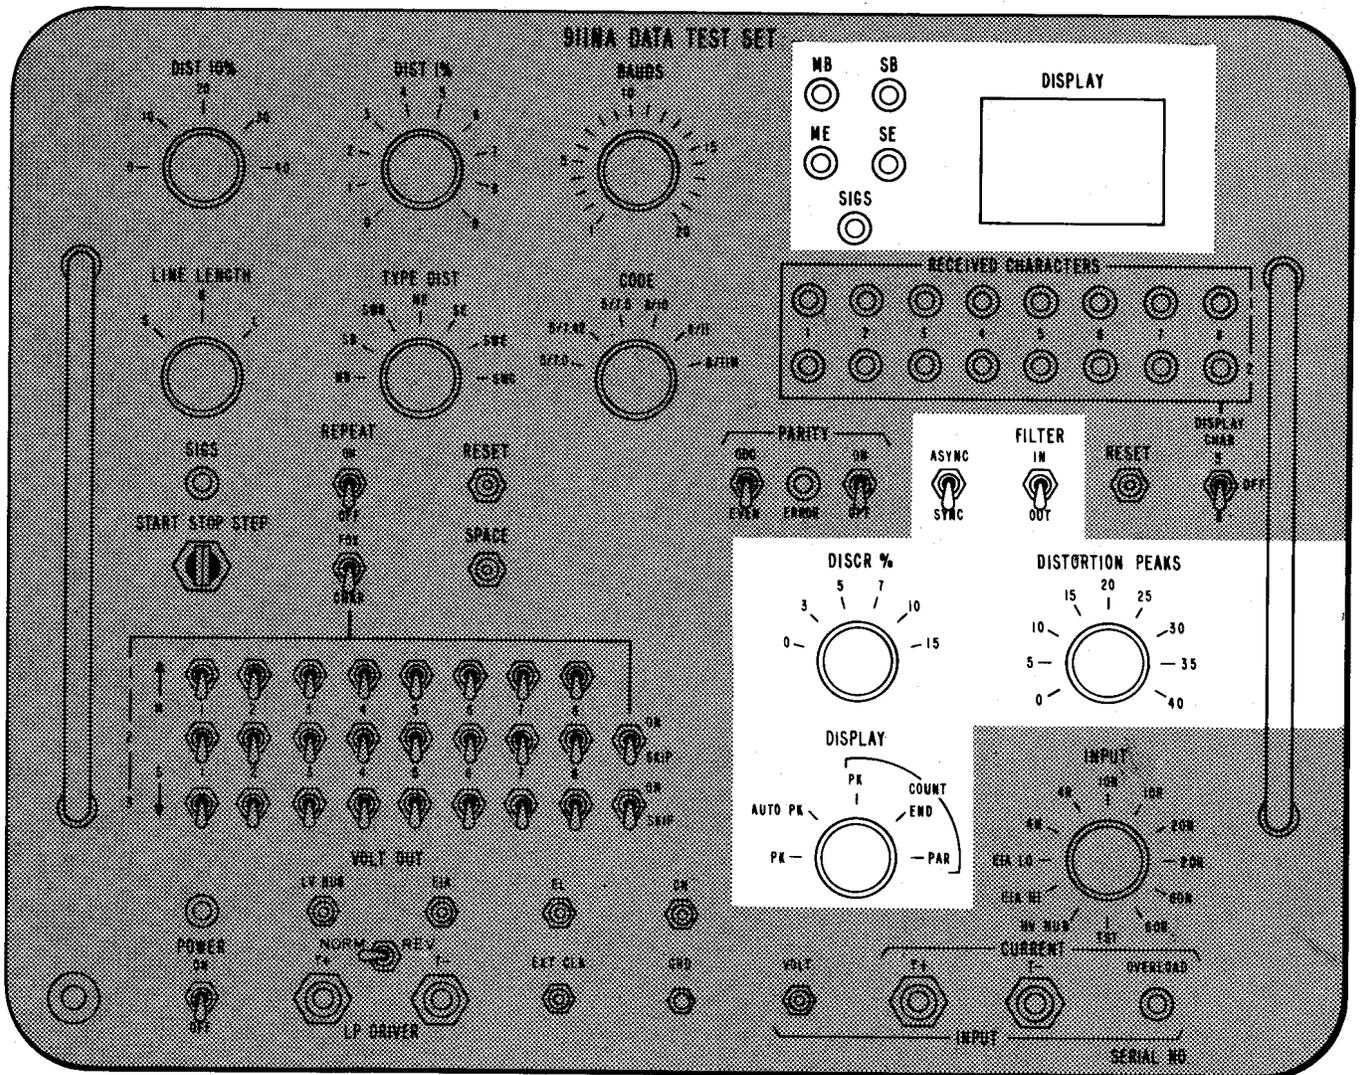

Fig. 16—Location of Switches Used in Measuring Received Signals and Displays
**3.33** Figure 16 shows the switches that are used to measure the amount, and the LEDs used to display the type, of distortion received by the DMS.